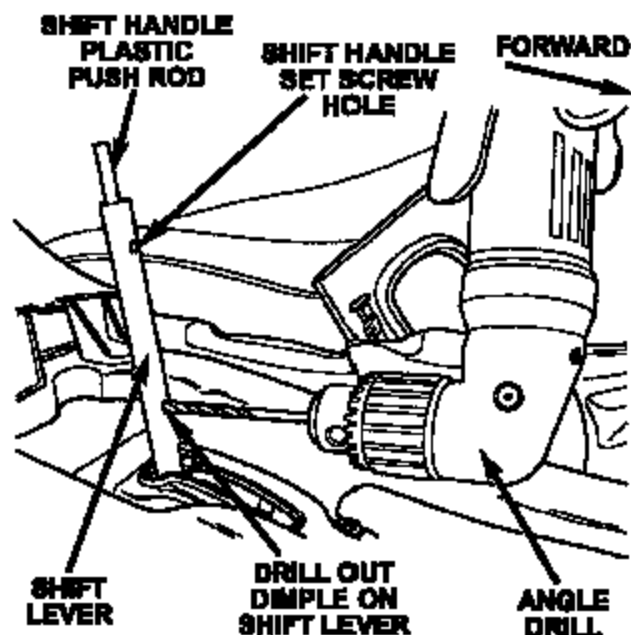

Figure 3 – LH Model Shown
8. Locate the shift lever push rod retaining dimple (Figure 3). Most vehicles will have the dimple on the front side of the shift lever.
9. Drill out the dimple using a 1/4" (6.5 mm) diameter drill bit (Figure 3).